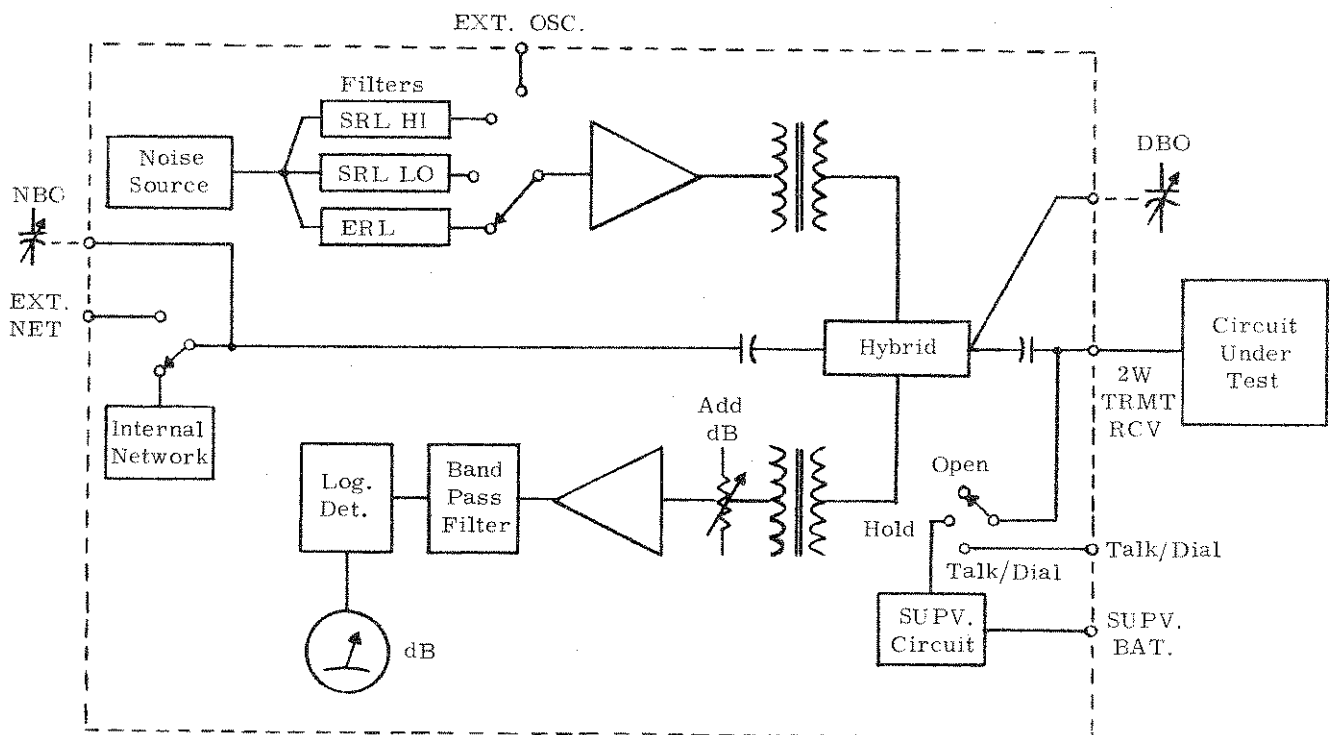

Figure 2-11. 2-Wire Return Loss Measurement, Simplified Diagram
2.14 The Model 9041 measuring set is used for 2-wire return loss measurements as shown in Figure 2-11. The transmit and receive signals are applied through an internal precision hybrid. The circuit under test is checked against an internal compromise balance network (600 or 900 ohms in series with 2.16 μ F). An external network such as a precision balancing network (PBN) can be connected if desired for structural return loss measurements, etc.